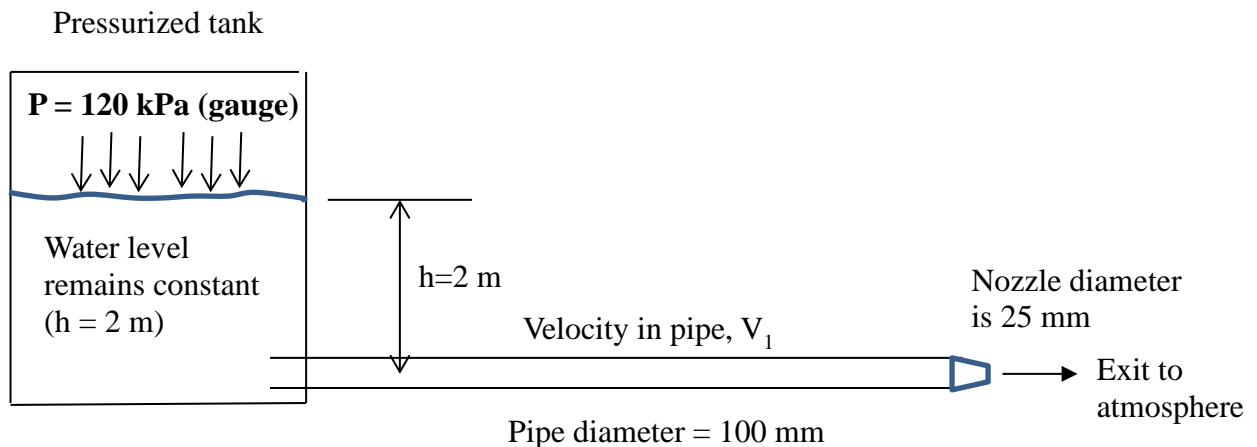

Figure 3
- (b) Water from a pressurized tank is discharged to the atmosphere through a 100 mm diameter pipe and nozzle as shown in Figure 3. The total loss in the piping system, (including nozzle and other minor losses) is $H_L = 2.5V_1^2/2g$.